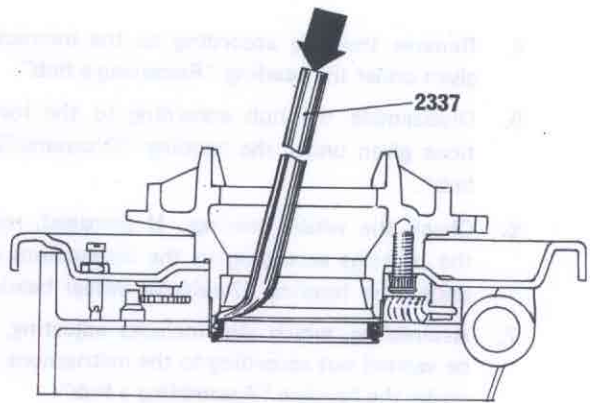

Fig. 77-10. Removing the outer sealing ring
3. Knock out the outer sealing ring with drift 2337, see Fig. 77-10.
- Knock out the outer sealing ring with drift 2337, see Fig. 77-10.